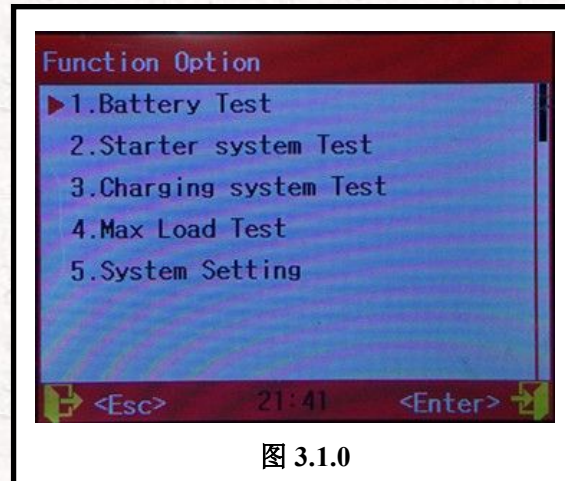
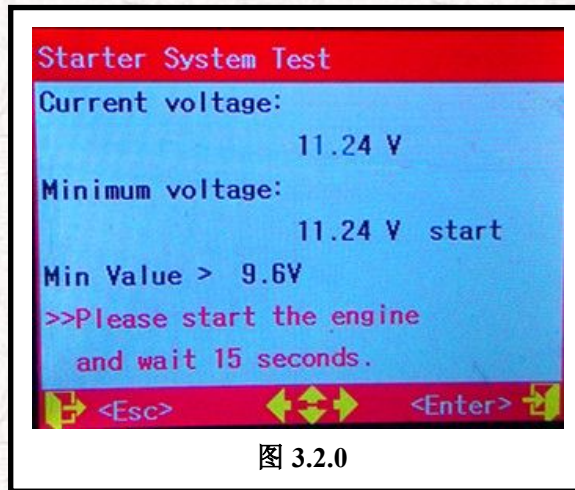
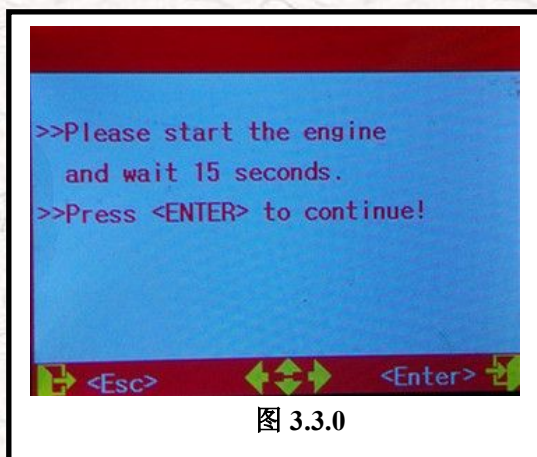

图 3.1.0
图 3.2.0
图 3.3.0
- After the normal boot, press any key to enter the main menu, as shown in Figure 3.1.0.
In the main menu (Figure 3.1.0) Select option 2 (starter system testing), and
press <Enter> key to enter the starter system test interface (Figure 3.2.0 below). prompted display interface to operate. After starting the engine to wait around for about 15 seconds to read the test data (minimum voltage value). For 12V systems. If the minimum voltage value is greater than 9.6V, then start the system normally. If less than 9.6V, shows the battery voltage is too low to start, check that the relevant part of the connection points, lines, and starters. If the 24V system, the minimum voltage 19.2V places as a reference boundaries. Test result print operations can refer battery test results printing operation.
In the main menu (Figure 3.1.0) Select option 3 (charging system test), press <Enter> key to enter the charging system test, then the operation prompt interface (Figure 3.3.0 below) will appear.
In the main menu (Figure 3.1.0) Select option 4 (maximum load test), and press <Enter> key to enter the maximum load test operation prompt interface (Figure 3.2.0 below).
- In the main menu (Figure 3.1.0) Select option 5 (System Settings), then press <Enter> key to enter system settings selection interface (shown in Figure 3.5.0).